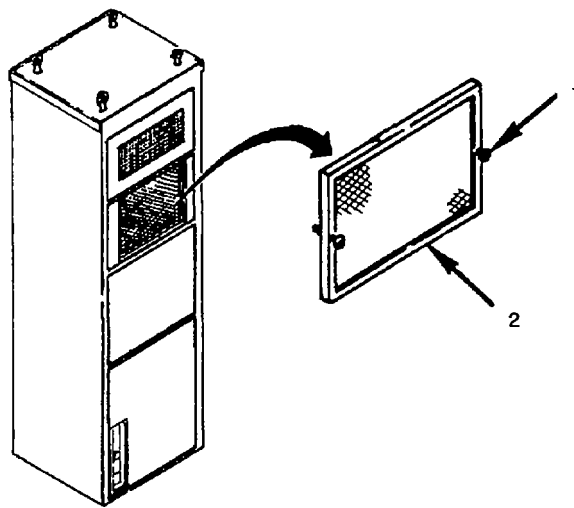

Figure 4-11. Return Air Filter Installation
4.12.4 Return Air Filter. Install filter (2) and tighten two captive fasteners (1) (see fig. 4-11).